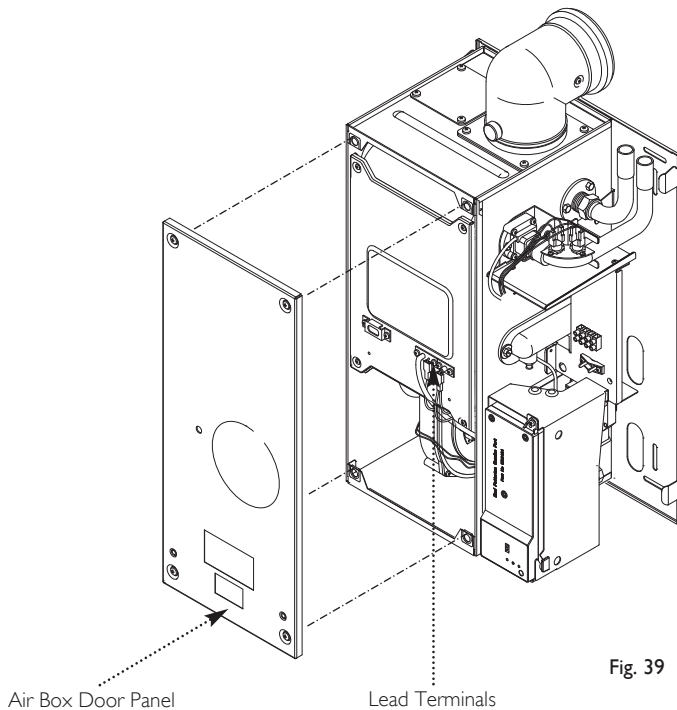

Fig. 39
7. Release the four  $\frac{1}{4}$  turn screws securing the air box door panel and remove the door (Fig. 39).